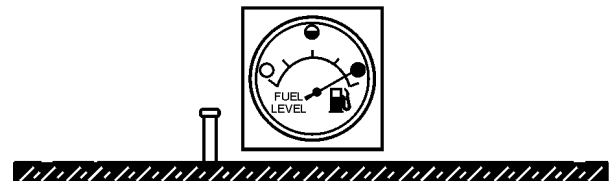

Figure 33. Full Fuel Tank
3. **NEVER** overfill fuel tank – It is important to read the fuel gauge when filling trailer fuel tank. **DO NOT** wait for fuel to rise in filler neck (Figure 33).